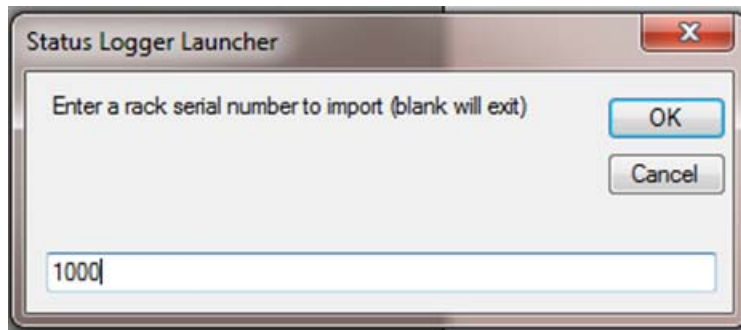

Figure 6: Status Logger Launcher, Rack Serial Number Entry Window
5. Type the serial number of the RDMS rack, then click on OK (Figure 6).